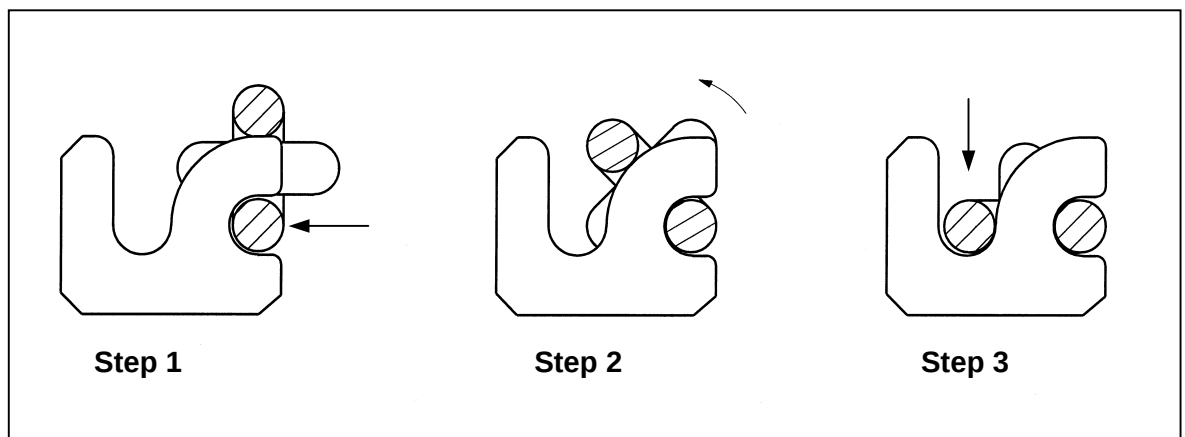

Fig. 2
2. Hook the attachment/scraper bar into the horizontal chain link (90° relative to the plane of the wheel). Alternatively, the slack chain can be hooked onto the scraper bar (figure 2).